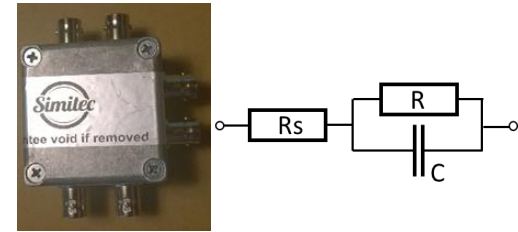
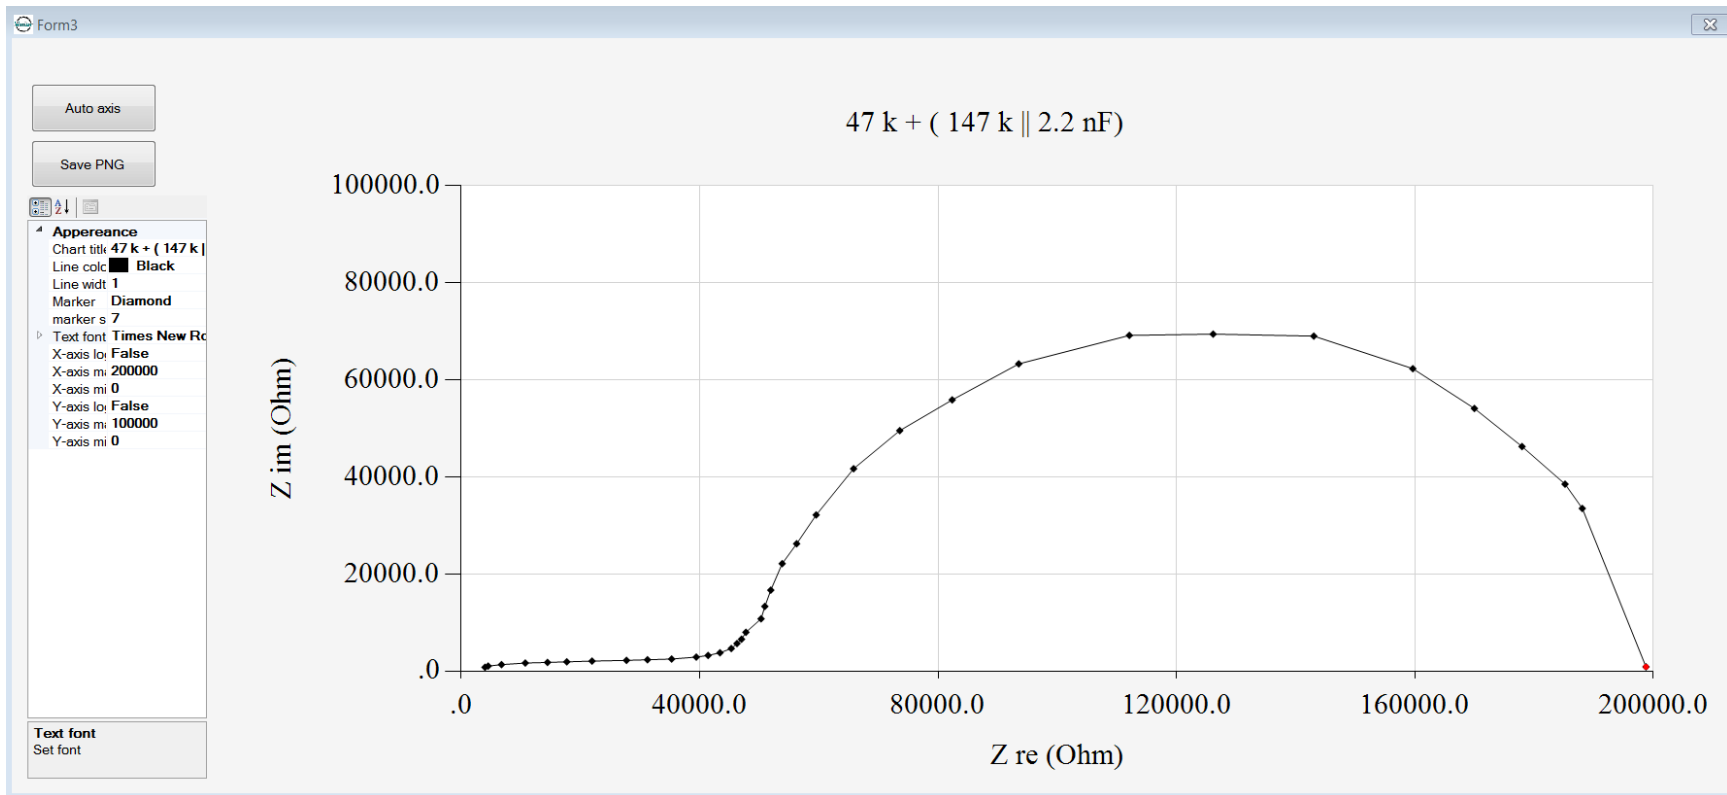

Fig. 2. Box and test circuits inside.
Fig. 3. Wessel plot of the circuit (1).
- As an example, in Fig. 3 is shown a Wessel plot of a basic cell, which is typical for bio-samples. Before starting the actual measurements, the measuring person can still verify the success of the calibration by measuring (according to this choice either the Schwan's α or β dispersion range, or both in low and high impedance regimes) with the calibration circuits included. These circuits (Z_1 - Z_3) are placed in an aluminium box (50x50x35mm), counter-clockwise from bottom to top (Fig. 2, left view). Circuits correspond to the basic electrical model of the cell (Fig. 2, right view), which can be represented by the mathematical models in the formulas (1-3).
- EIS-101 v2; Electric Impedance Spectrometer (*Device embedded additional microcontroller and clock circuit, USB2 cable and three calibration impedances as shown in Fig. 2*)